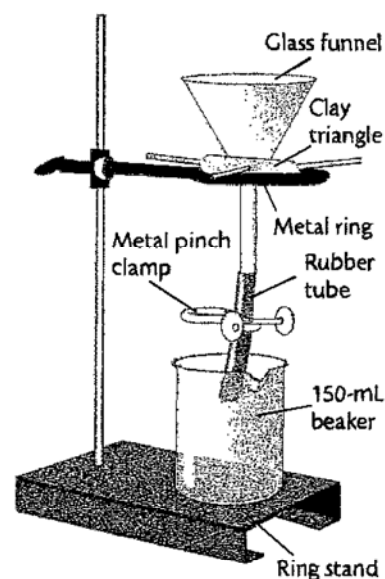

Figure 2 Funnel in clay triangle.
4. Place a funnel in a clay triangle supported by a ring and ring stand. See Figure 2. Attach a rubber tube to the funnel tip as shown.
18. Place the funnel in a clay triangle supported by a ring. See Figure 2, page 9. Lower the ring so that the funnel stem extends 2 to 3 cm (centimeters) inside a 150-mL beaker.